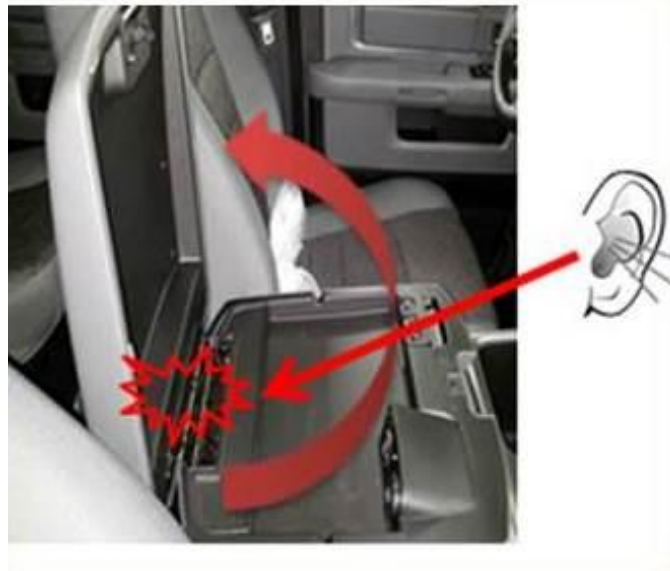

Fig. 2 Checking Lid Noise
3. Check the rear of the upper lid hinge for binding or an audible clicking as shown in (Fig. 2).